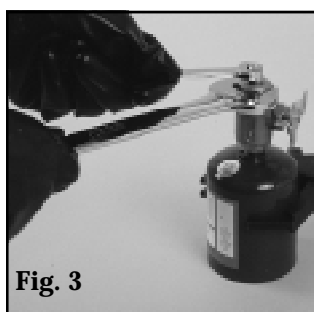

Fig. 3
3. Remove the plug while holding the valve with a wrench (Fig. 3). The plug should be saved and later replaced if the entire contents are not removed.